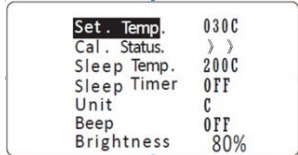

Fig.8
3.4. When Cal. status display "> >" (see Fig 8.) , it means "Real Temp." has calibrated to max. temperature, can not increase anymore, but it can decrease temperature.